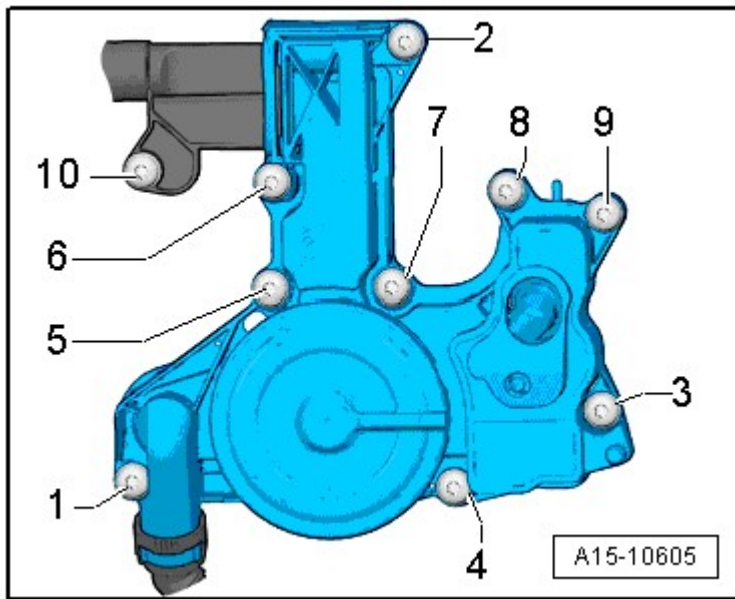

Fig. 17: Identifying Crankcase Ventilation - Tightening Sequence
- Tightening sequence **Fig. 17**